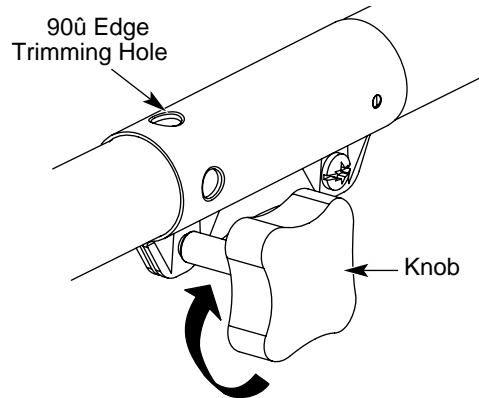

Fig. 8
3. Turn the knob clockwise to tighten (Fig. 8).
For decorative trimming/edging with the line head cutting attachment, lock the release button of the cutting attachment into the 90° hole (Fig. 8).